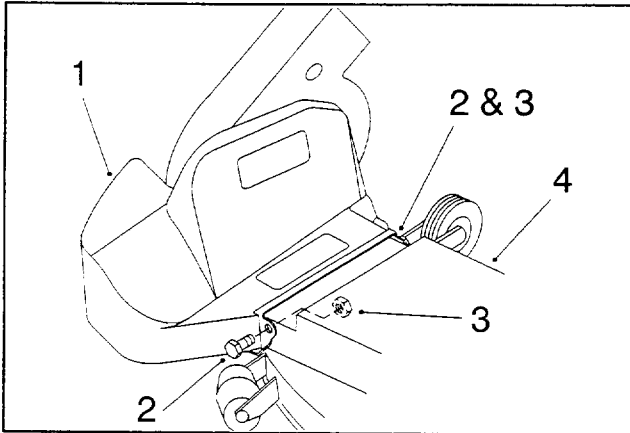

Figure 11
4. Install the blower belt cover using two $\frac{1}{4}$ " x $\frac{5}{8}$ " hex-head bolts and $\frac{1}{4}$ " nylon lock nuts (Fig. 11). Tighten the nuts until you feel a slight drag on the cover when you rotate it. The cover must close freely.